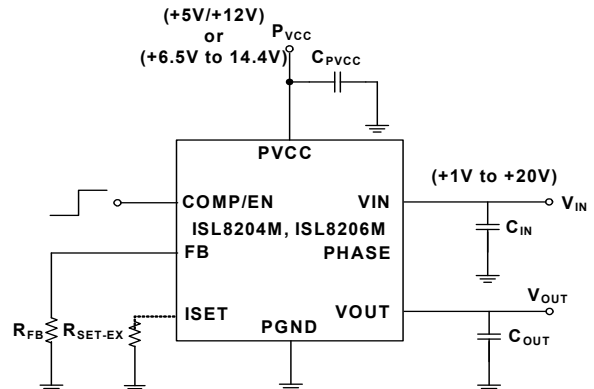

FIGURE 16. WIDE INPUT VOLTAGE APPLICATION SCHEMATIC
Figure 16 shows the ISL8204M, ISL8206M application schematic for wide input voltages from +1V to +20V. The PVCC supply can source +5V/+12V or +6.5V to 14.4V.
**Figure 16** shows a standard configuration where  $P_{VCC}$  is either 5V ( $\pm 10\%$ ) or 12V ( $\pm 20\%$ ). In each case, the gate drivers use the  $P_{VCC}$  voltage for low-side gate and high-side gate driver. In addition,  $P_{VCC}$  is allowed to work anywhere from 6.5V up to the 14.4V maximum. The  $P_{VCC}$  range between 5.5V and 6.5V is not allowed for long-term reliability reasons, but transitions through it to voltages above 6.5V are acceptable.